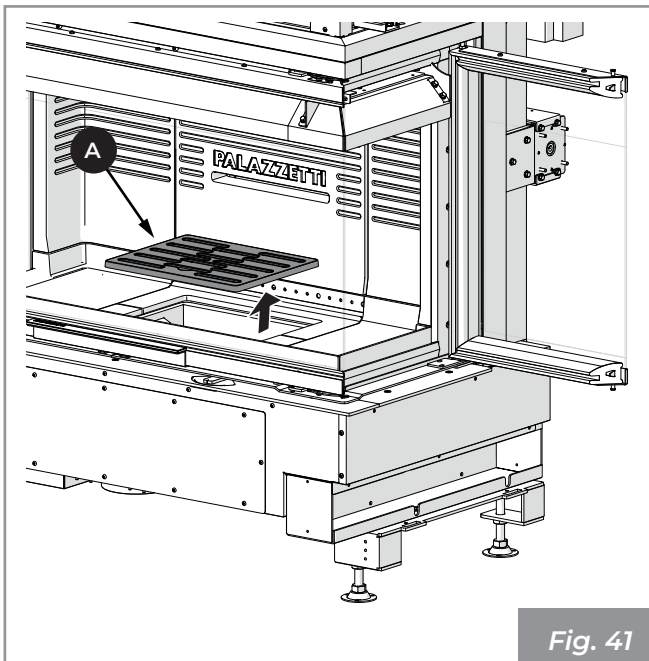

Fig. 41
- 1) Make sure that the grate (A) (Fig. 41) is free from any combustion residues that may obstruct the free passage of air. Remove it and clean the fire box using a hand brush (not supplied) conveying the combustion residues into the ash drawer. Pay attention to any burning embers.